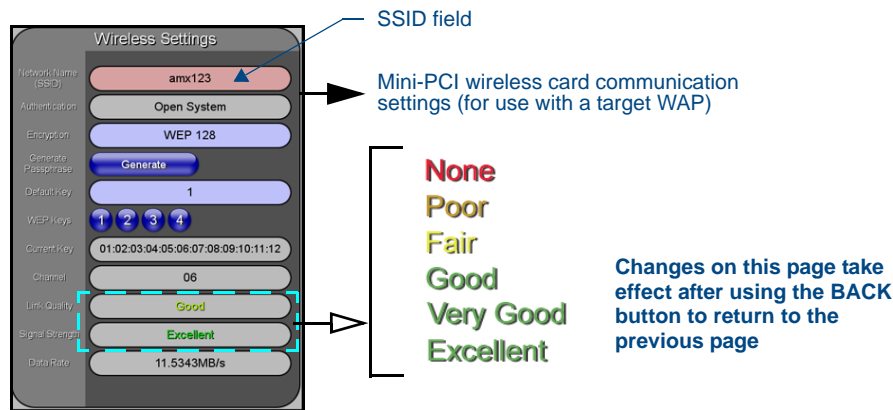

FIG. 60 Wireless Settings page (Wireless Settings section)
6. Locate the Wireless Settings section of the Wireless Settings page (FIG. 60).
9. Toggle the *Encryption* field (FIG. 60) until it reads **WEP64** or **WEP128**. *The 64/128 selection reflects the bit-level of encryption security. This WEP encryption level must match the encryption level being used on the WAP.*
13. Write down this Current Key string value for later entry into your WAP's *WEP Key* field (*typically entered without colons*) and into the communicating panel's *Current Key* field (FIG. 60).